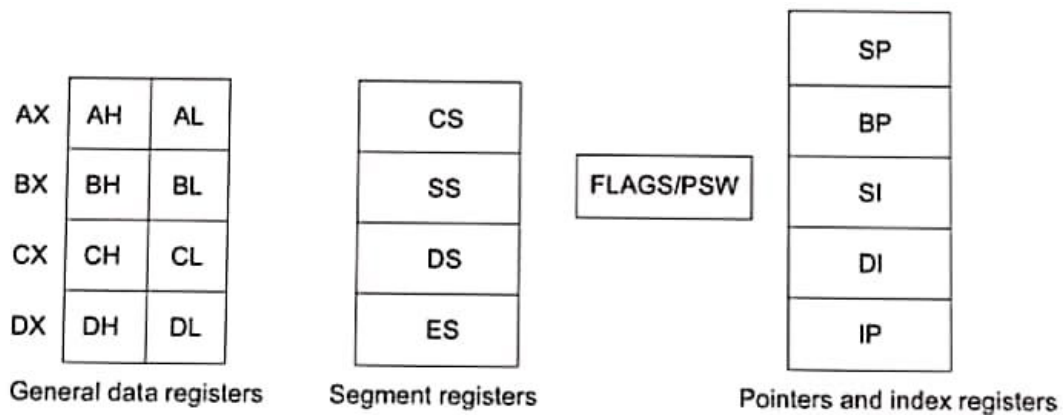

Fig. 1.1 Register organisation of 8086
- Figure 1.1 shows the register organization of 8086.